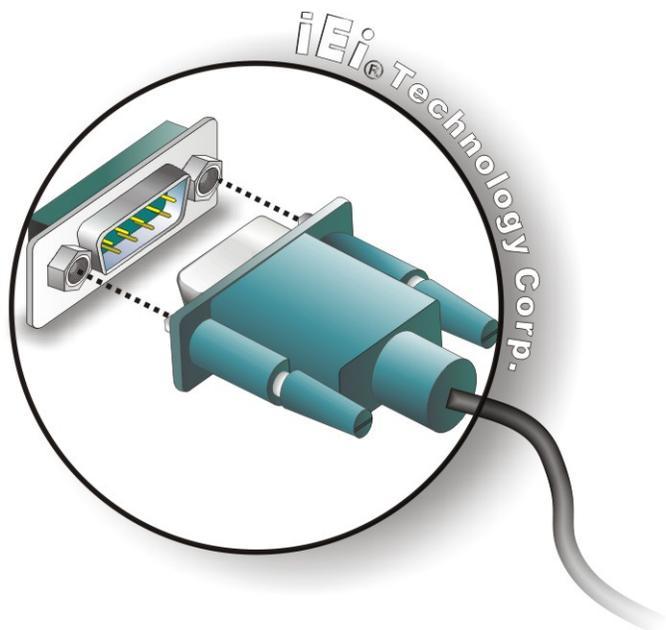

Figure 4-35: Serial Device Connector
Step 2: Insert the serial connector. Insert the DB-9 connector of a serial device into the DB-9 connector on the bottom panel. See **Figure 4-35**.